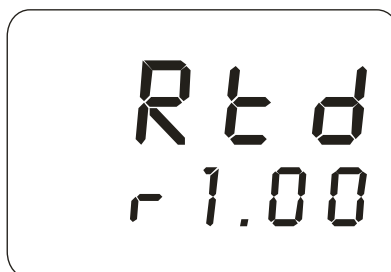

Figure 12: Successful field calibration lockout
3. If field calibration lockout is successful, the version-model window appears without the CAL indicator (Figure 12).